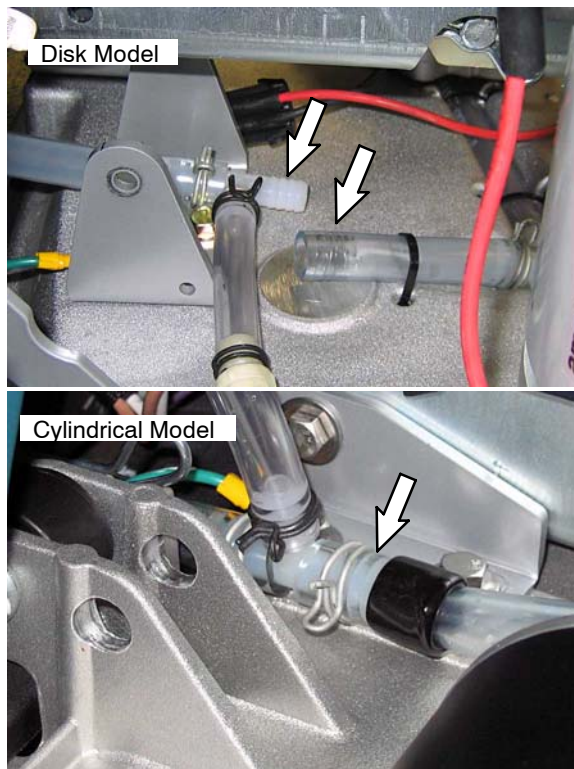

Fig. 4
4. Connect the solution hose from the scrub head assembly to the machine (Figure 4).